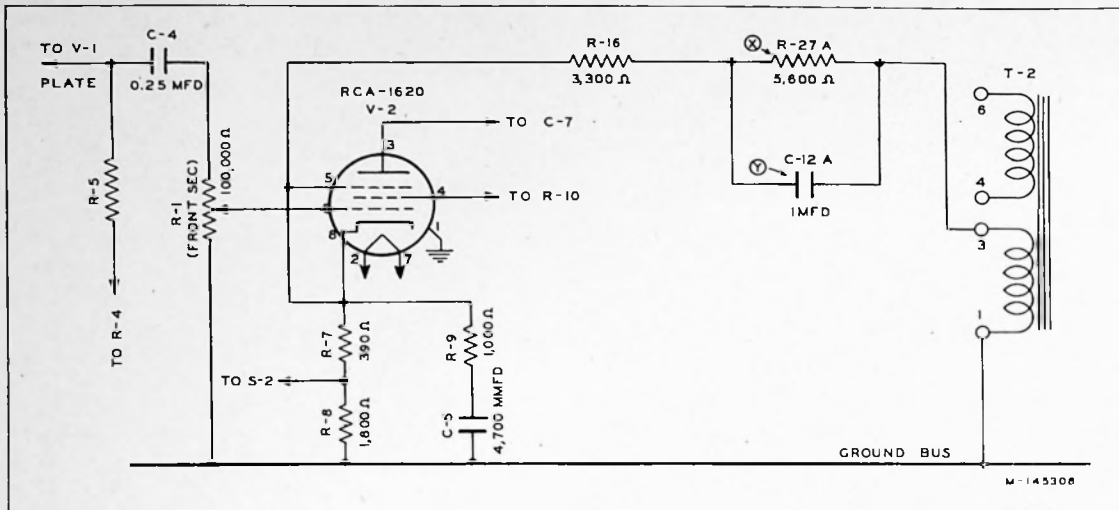

Figure 5—Partial schematic diagram showing changes for compensation.
- a. To obtain a frequency-response curve similar to number 1, replace the .0047 mfd capacitor marked C-5 in figure 2 with one having a value of .0065 mfd. Refer to figure 5.
- b. To obtain a frequency-response curve similar to number 2, replace the .0047 mfd capacitor marked C-5 in figure 2 with one having a value of .0086 mfd. Refer to figure 5.
- c. To obtain a frequency-response curve similar to number 3, replace the .0047 mfd capacitor marked C-5 in figure 2 with one having a value of .0112 mfd. Refer to figure 5.
- a. To obtain a frequency-response curve similar to number 1, replace the 0.25 mfd capacitor marked C-4 in figure 2 with one having a value of 0.03 mfd and add the resistor and capacitor marked X and Y as shown in figure 5.
- b. To obtain a frequency-response curve similar to number 2, replace the 0.25 mfd capacitor marked C-4 in figure 2 with one having a value of 0.05 mfd and add the resistor and capacitor marked X and Y as shown in figure 5.
- c. To obtain a frequency-response curve similar to number 3, replace the 0.25 mfd capacitor marked C-4 in figure 2 with one having a value of 0.1 mfd and add the resistor and capacitor marked X and Y as shown in figure 5.